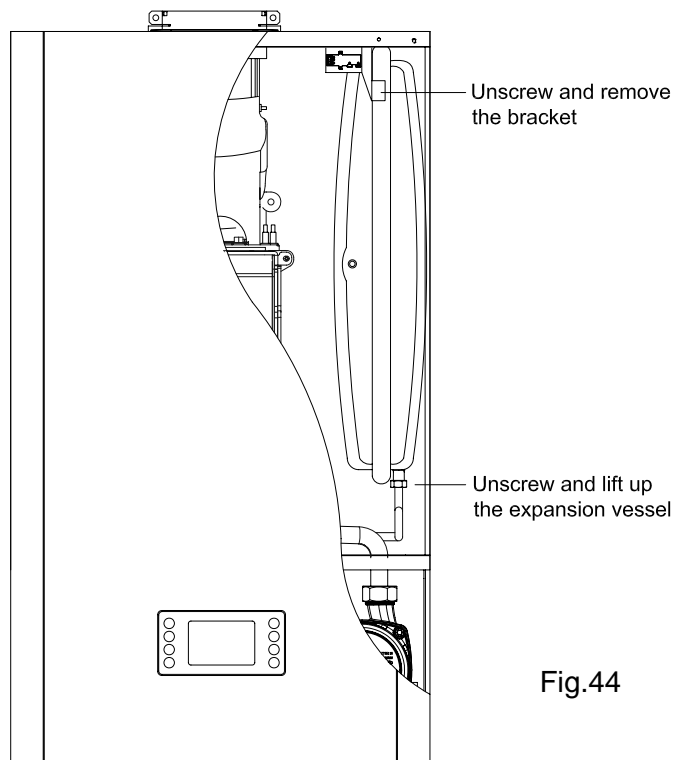

Fig.44
8.9 TO REMOVE/REPLACE EXPANSION VESSEL (Fig.44)